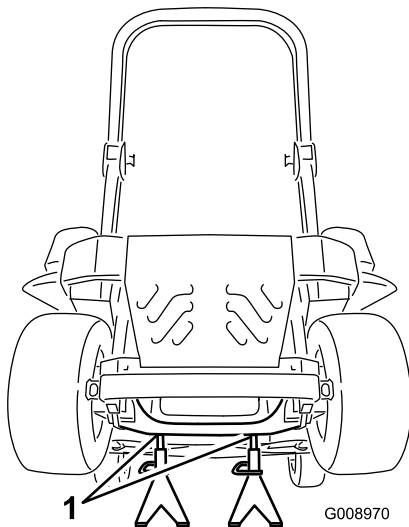

Figure 95
3. Raise the machine and support it with jack stands (Figure 95).
9. Remove the jack stands and lower the machine (Figure 95).